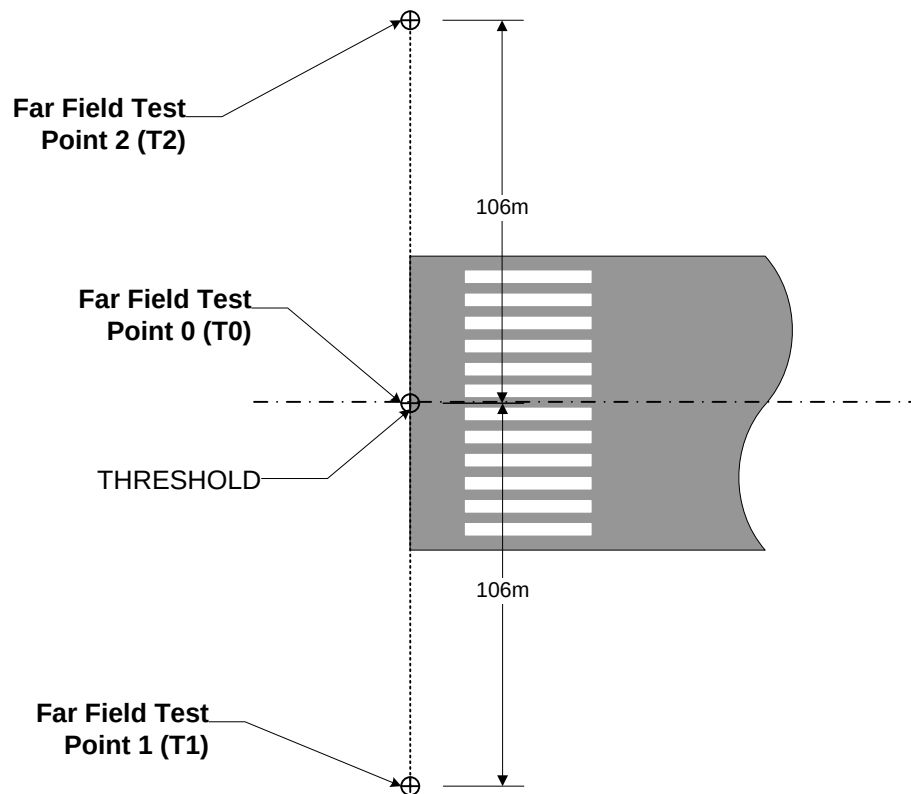

Figure 2 - Far Field Test Points
- Using the PIR with field antenna, measure the field modulation at three far field test points (see Figure 2)